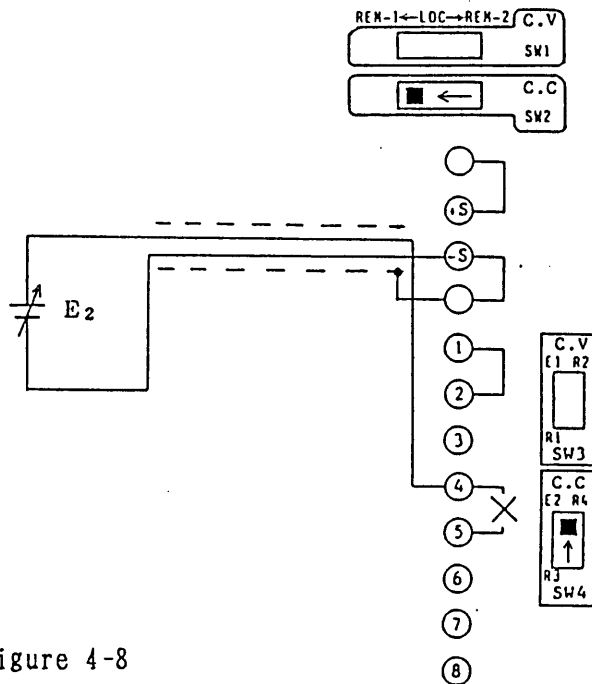

Figure 4-8
- (1) Turn off the POWER switch.
- (2) Throw the SW2 switch of the rear panel to REM-1.
- (3) Throw the SW4 switch of the rear panel to E2.
- (4) Disconnect the jumper from between terminals ④ and ⑤ of the rear terminal block.
- (5) Connect the remote control voltage (E2) to between terminals ⑤ and ④, with terminal ④ for the positive polarity line.
- (6) Connect an ammeter (a shunt resistor) between the OUTPUT terminal.
- (7) Turn on the POWER switch. (Turn on the OUTPUT switch.)
- (8) Adjust offset (at zero amperes) with the I.os control of the service panel.
- (9) Regarding the switches for which no settings are specified in Figure 4-8, set them to the standard states as shown in Figure 2-23 (See Section 2.4.) or to appropriate states for respective modes (See Sections 4.1 through 4.11.).